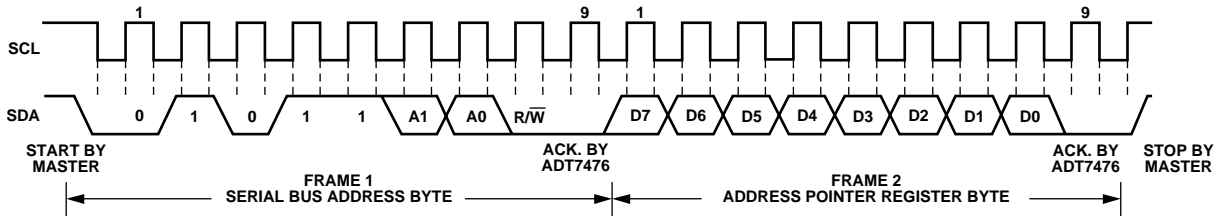

Figure 19. Writing to the Address Pointer Register Only
- If the ADT7476's address pointer register value is unknown, or not the desired value, it must first be set to the correct value before data can be read from the desired data register. This is done by performing a write to the ADT7476 as before, but only the data byte containing the register address is sent, because no data is written to the register (see Figure 19).